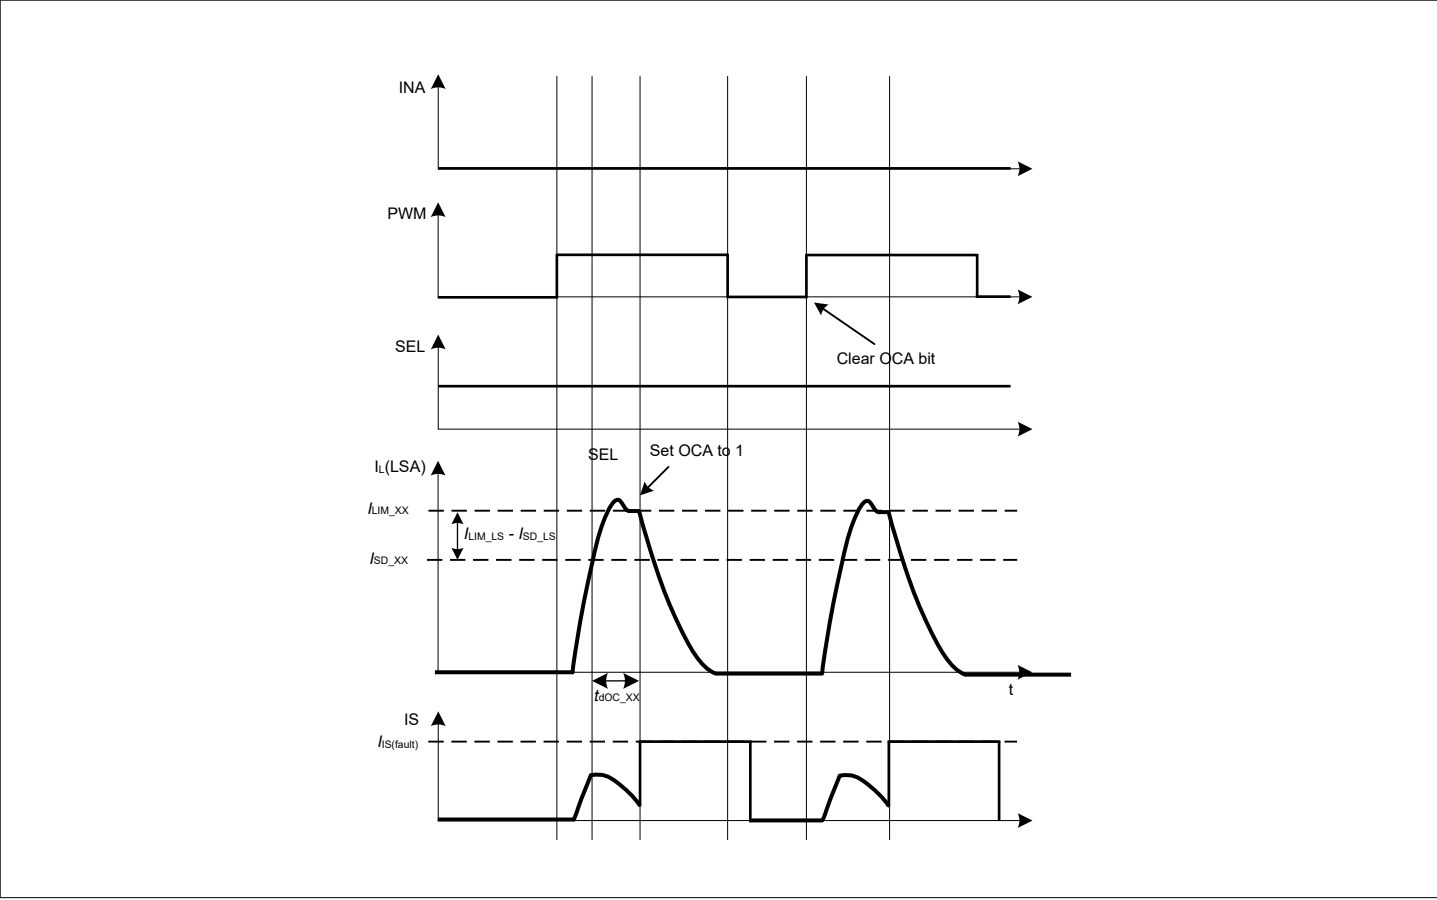

Figure 23 Recovery of short circuit and overcurrent protection by input bits
- Switch on the MOSFETs by input pulse (PWM, INA and INB) as shown in Figure 23
As shown in Figure 23 the recovery will be controlled by the input bits in the control byte.